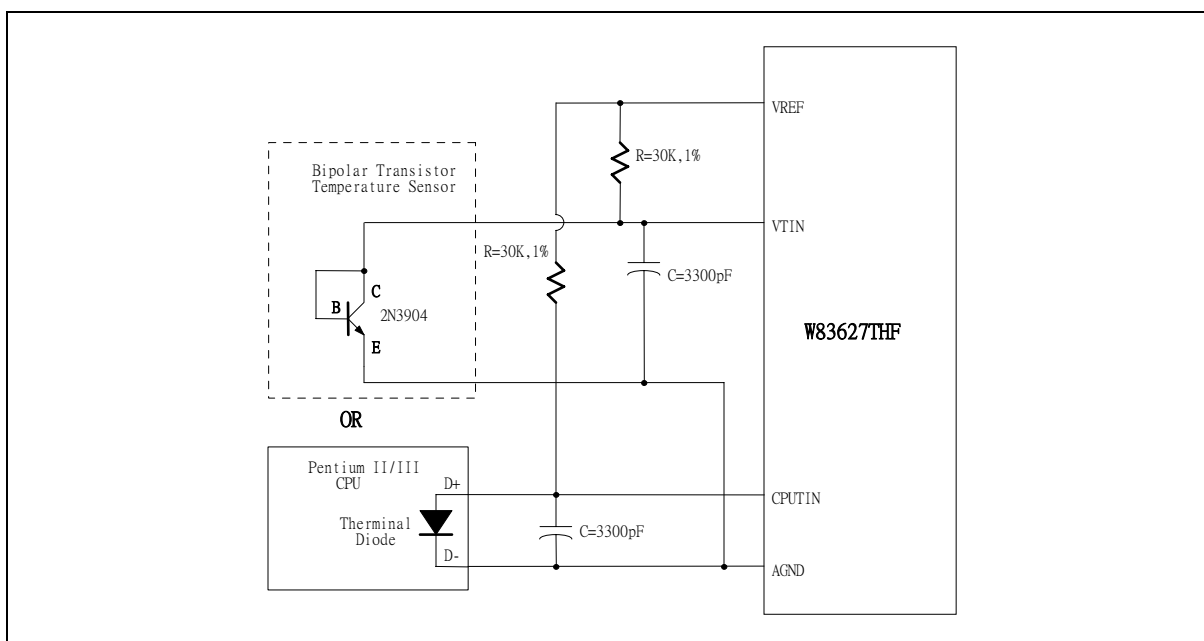

Figure 5-3
The W83627THF can alternate the thermistor to Pentium IITM/Pentium IIITM thermal diode interface or transistor 2N3904 and the circuit connection is shown as Figure 5-3. The pin of Pentium IITM/Pentium IIITM D- is connected to AGND and the pin D+ is connected to temperature sensor pin in the W83627THF. The resistor R=30K ohms should be connected to VREF to supply the diode bias current and the bypass capacitor C=3300pF should be added to filter the high frequency noise. The transistor 2N3904 should be connected to a form with a diode, that is, the Base (B) and Collector (C) in the 2N3904 should be tied together to act as a thermal diode.